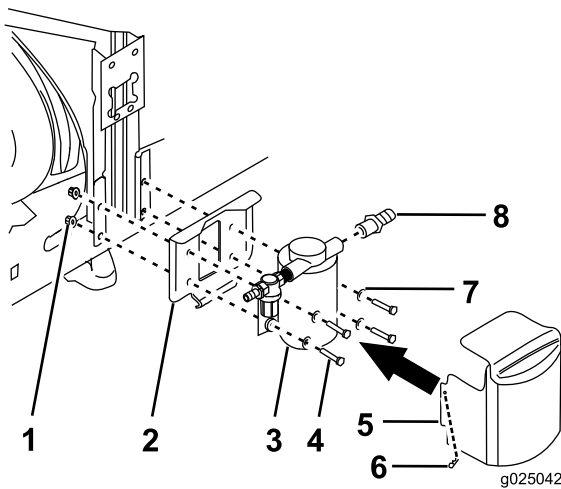

Figure 13
7. Secure the pump to the frame using the rinse pump mounting bracket and the 4 bolts, 4 flange whiz nuts and 4 washers (Figure 13).